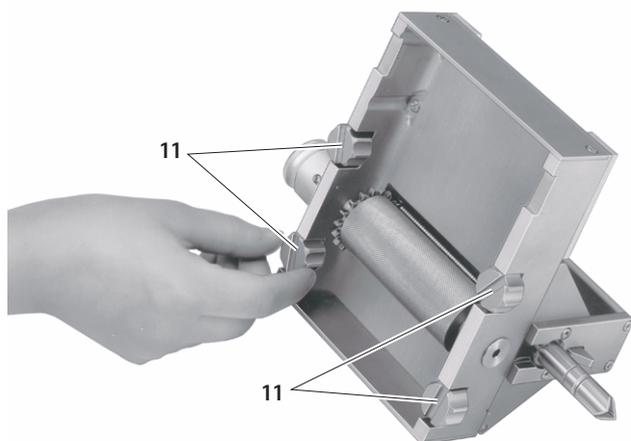

Fig. 1
- ▶ Turn cutting device 4 upside down so that the four screws 11 are visible, see Fig. 1.
- ▶ Turn cutting device **4** upside down so that the four screws **11** are visible, see Fig. 1.